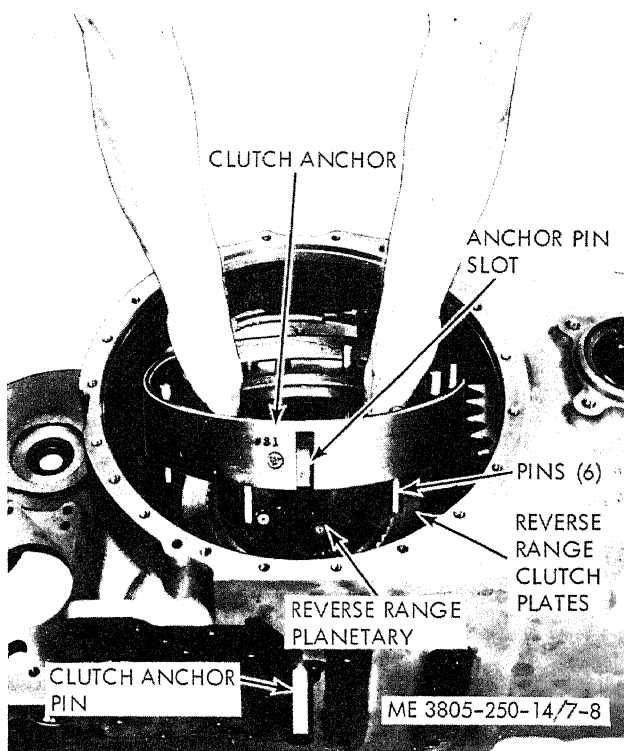

Figure 7-8. Installing clutch anchor.
(16) Align the slots of the external tanged reverse range clutch plates to receive six pins of the clutch anchor (97). Install clutch anchor and the clutch anchor pin (96), aligning the pin with the slot in the anchor assembly. Refer to figure 7-8. Temporarily install a $\frac{3}{8}$ -16 NC x 1 inch bolt and